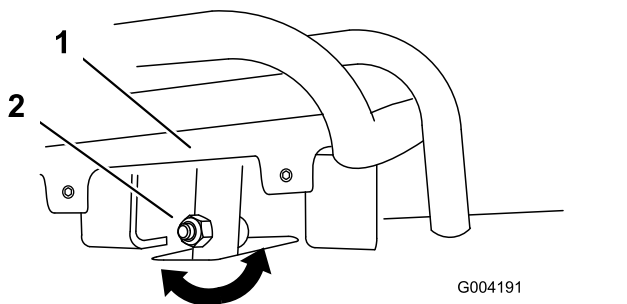
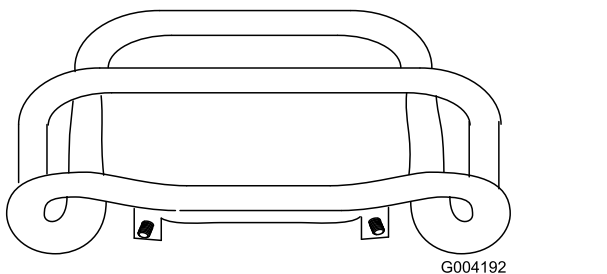

Figure 54
Figure 55
4. If the front of the traction control does not rest square and flush with the reference bar, loosen the nut and bolt in the stem of the traction control (Figure 54).
5. Adjust the traction control so that it rests flush against the reference bar when it is pulled straight back (Figure 54 and Figure 55).
- C. Loosen the flange nut and bolt in the stem of the traction control (Figure 54).
- I. Adjust the traction control so that it rests flush against the reference bar when it is pulled straight back (Figure 54 and Figure 55).